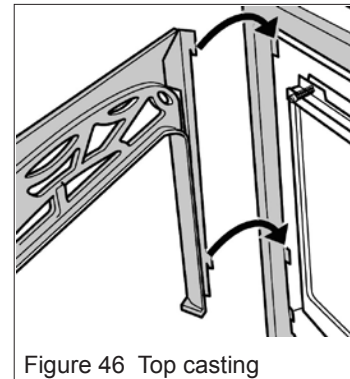

Figure 46 Top casting
2. Attach the top casting unit by hooking it over the four tabs at the firebox sides. See figure 46.